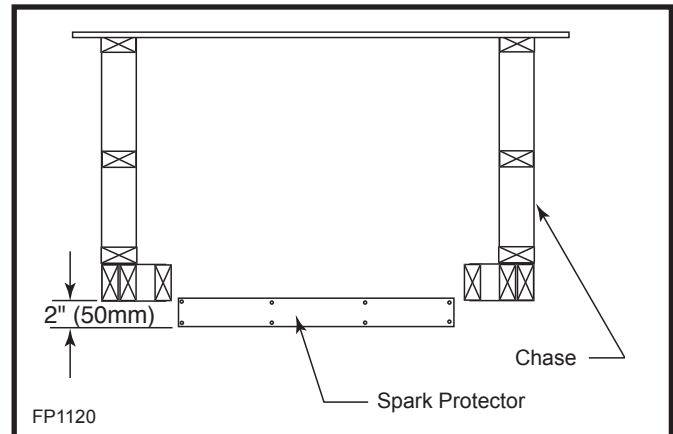

Fig. 42 Install spark protector.
4. Install the spark protector strip. To install the 3" x 38" (76mm x 965mm) spark protector strip, first draw a line on the hearth parallel and 2" (51mm) in front of the chase opening. Center the spark protector strip in the chase opening, with the outside edge on the line. Nail or screw the strip down, painted side up, so that the fastener heads are flush with the surface of the spark protector strip. (Fig. 42)